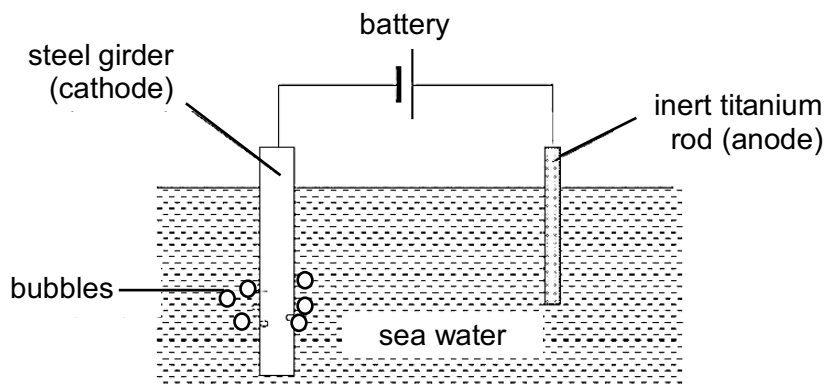

Fig. 11.3
- (d)** Another method of preventing the rusting of steel is cathodic protection. A set-up showing cathodic protection is shown in Fig. 11.3.